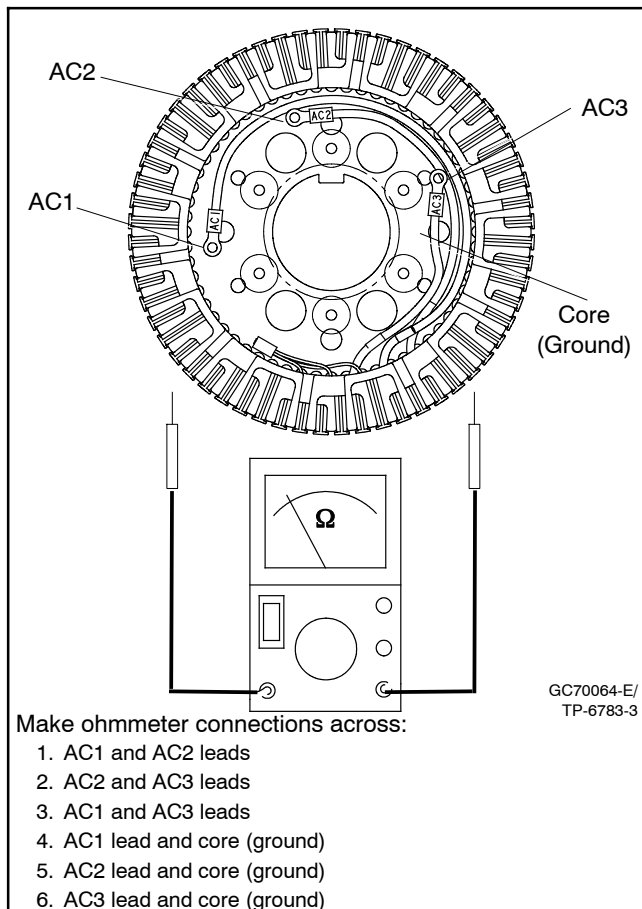

Figure 11-9 Exciter Armature Continuity Check
4. With an ohmmeter, check for continuity across the AC1/AC2, AC2/AC3, and AC1/AC3. Check for continuity across AC1/core (ground), AC2/core (ground), and AC3/core (ground). See Figure 11-9. See Section 1.8, Specifications, Electrical Values for exciter armature resistance values.